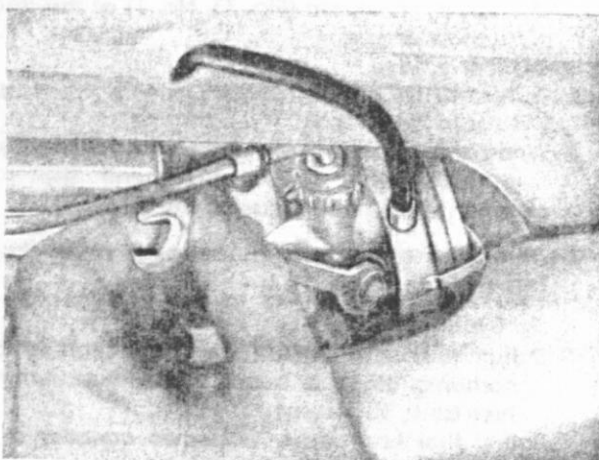

Fig. 29: Unscrewing the main jet
1. Unscrew main jet (Fig. 29).